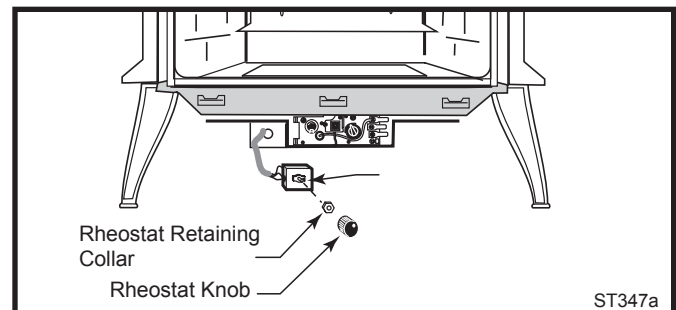

Fig. 17 Attach the fan rheostat.
4. The rheostat control switch attaches to the left side of the valve bracket at the front of the stove. (Fig. 17)